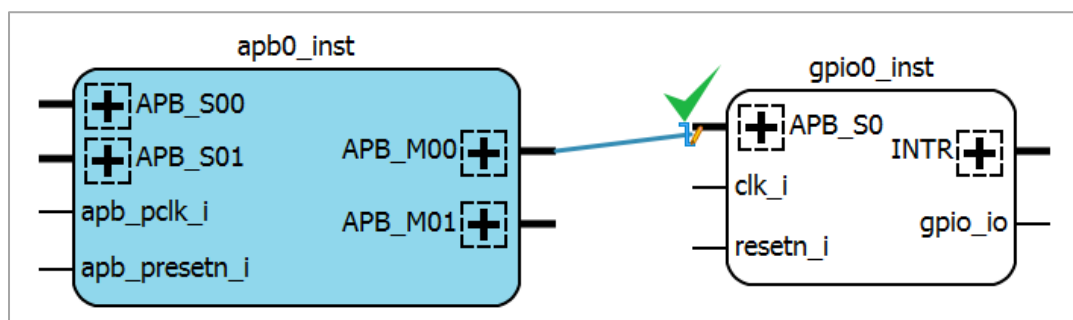
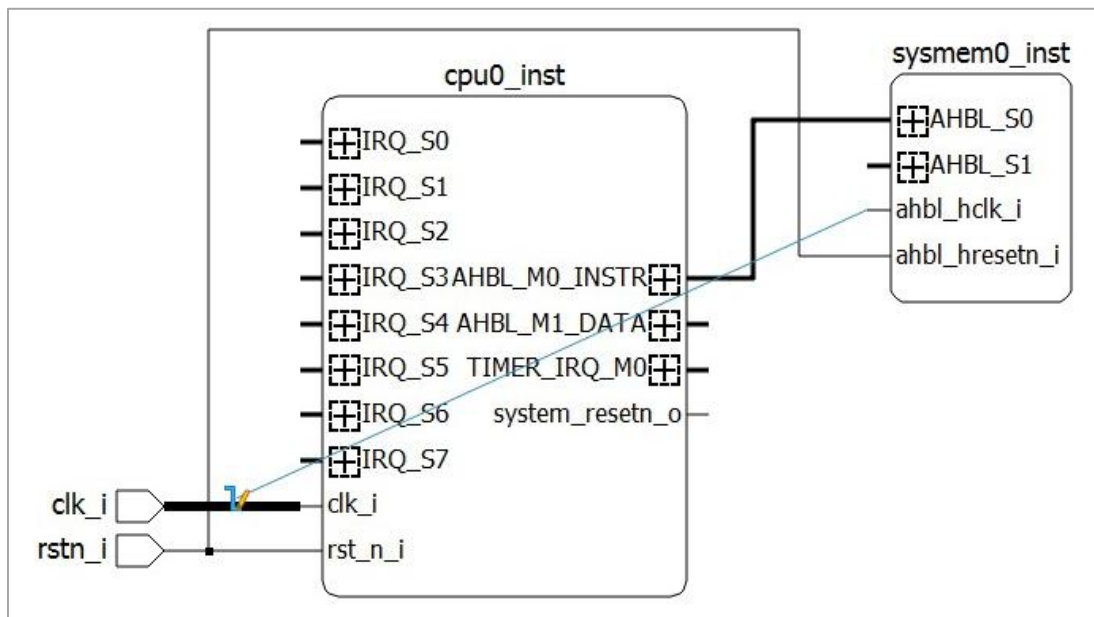

Figure 2.79. Draw a Pin or a Port
Figure 2.80. Draw Nets
1. Move the cursor to a pin or port. The cursor changes to a pencil icon . Click and hold while dragging to another pin, port, or net. An allowed pin or port shows a green checkmark when you hover over it (Figure 2.79). An allowed net becomes bold when you hover over it (Figure 2.80).